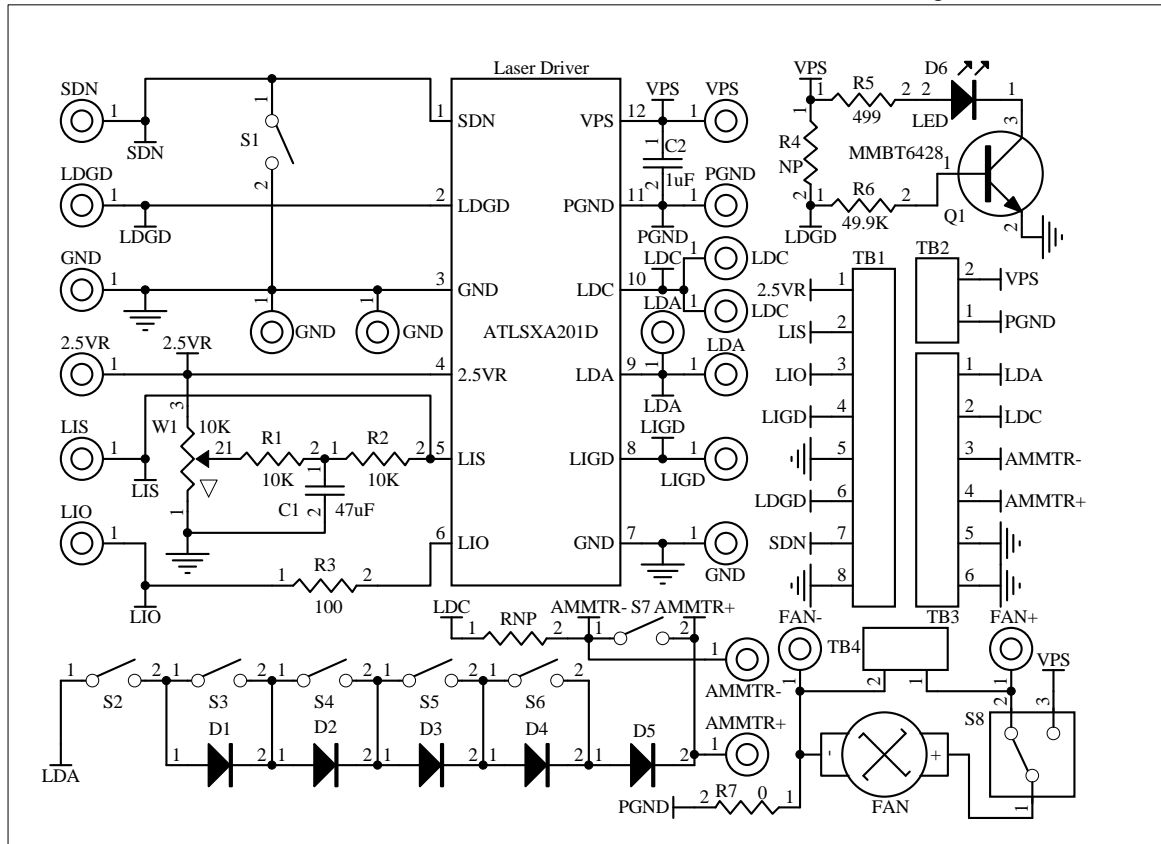

Figure 7. Schematic of Laser Driver ATLS201D Evaluation Board Rev. 1.0
The schematic is shown in Figure 7 below.
- B. Turn the switch S7 to its lower off position, thus the output current can go through the ammeter and be measured by reading Ammeter's value.; when the switch S7 is placed in the upper on position, the ampere meter is shorted, thus, it does not measure the output current, see the schematic shown in Figure 7.
6. Test the driver with the "dummy laser". The 5 diodes on the board, D1 to D5, can form a "dummy laser" to act as the laser diode in place of a real laser so that in case there is a problem in the circuit, the expensive laser would not be damaged, see schematic in Figure 7. Turn the switch S2 to the on position (upper), to connect the "dummy laser" to the driver. Turning switches S3, S4, S5 and S6, up and down will increase (turning down the switches) and decrease (turning up the switches) the forward voltage of the "dummy laser" which can be measured by a volt meter between the LDA and the ground. Each diode can increase or decrease the output forward voltage by about 0.7V when the output current is 4A. **Warning: when output 4A current, the diodes may get very hot, don't touch them with your fingers.** The switch bank and their corresponding diodes are shown in the table below. The diode D5 is always activated so that the total forward voltage range is from 0.7V to 0.7V + 0.7x4 = 3.5V. Please be aware of this fact: when the output voltage is low by shorting circuit all the diodes, the driver will consume a lot of power and may get too hot that the internal temperature protection circuit will shut off the driver automatically. When this happens, wait for a few seconds, let the driver cool down, the driver will restart by itself again after the temperature is lowered to certain level. This is the way to calculate the power consumption of the driver: